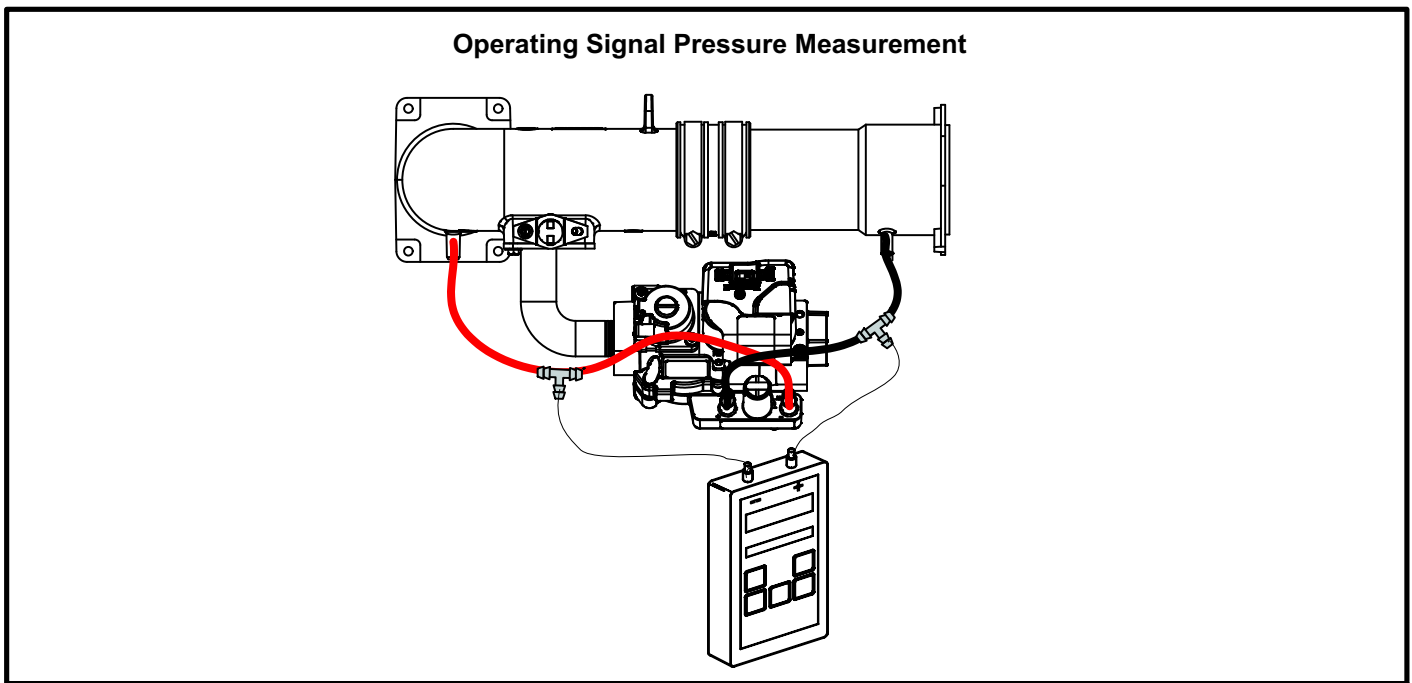

FIGURE 56
- 3 - Install hoses and meter as shown in figure 56 for signal pressure measurement.